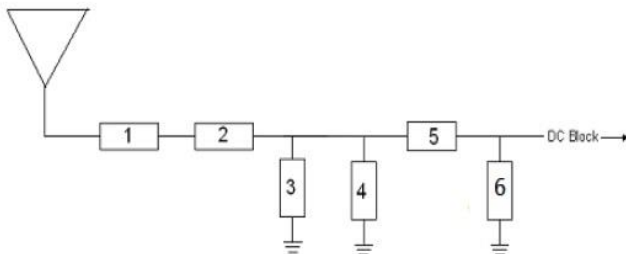

Figure 13 Matching circuit
***Resonant frequency of LPRS-MCA-433-915 can be fine tuned for the working frequency 433MHz, 868MHz or 915MHz by using different matching components. Matching components will be defined according to the environmental conditions of cases or devices (see figure 13)